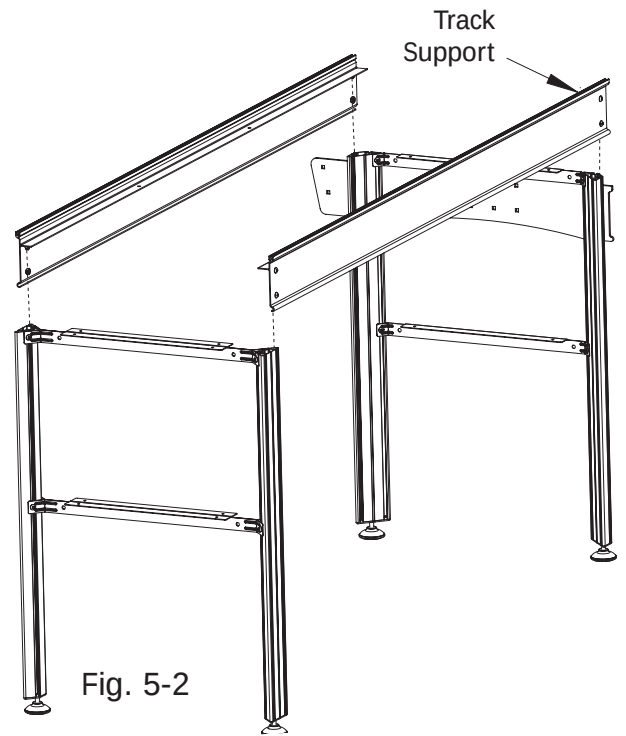

Fig. 5-2
6-3: Attach the other end of the Track Support to the Middle Leg, (part of the Table Sub-Assembly) by sliding the two (2) Square Nuts into the “T” slot in the Leg as done in Step 5-3, and as shown in Fig. 5-2. **(Leave all four (4) of the 6mm X 10mm SBHC Screws in the Middle Leg loose.** They will be tightened in Step 8-2)